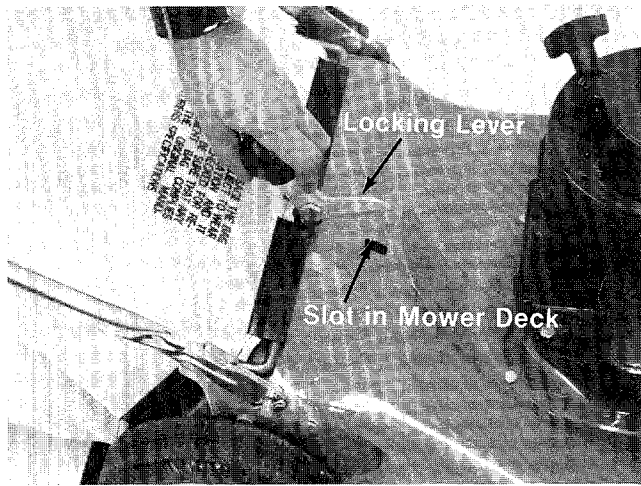

FIGURE 13.
3. Move the locking lever forward and hook in slot on mower. See figures 13 and 14.